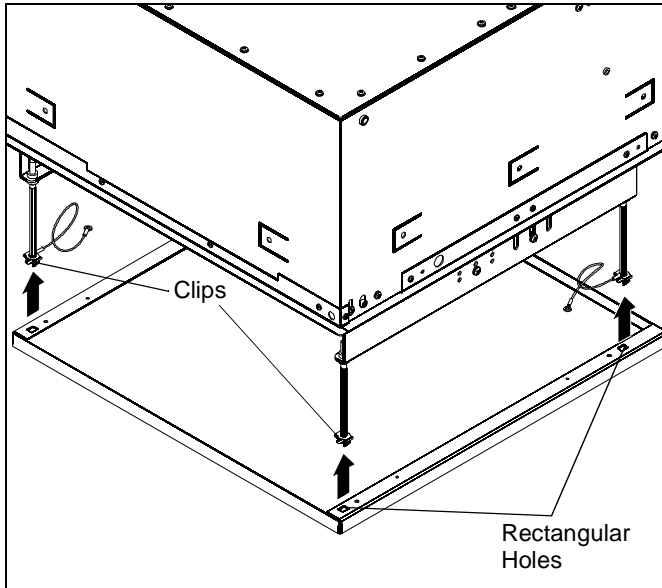

Figure 14
1. Line up rectangular holes in ceiling panel with clips on ends of rods, and re-attach the ceiling panel. (See Figure 14)